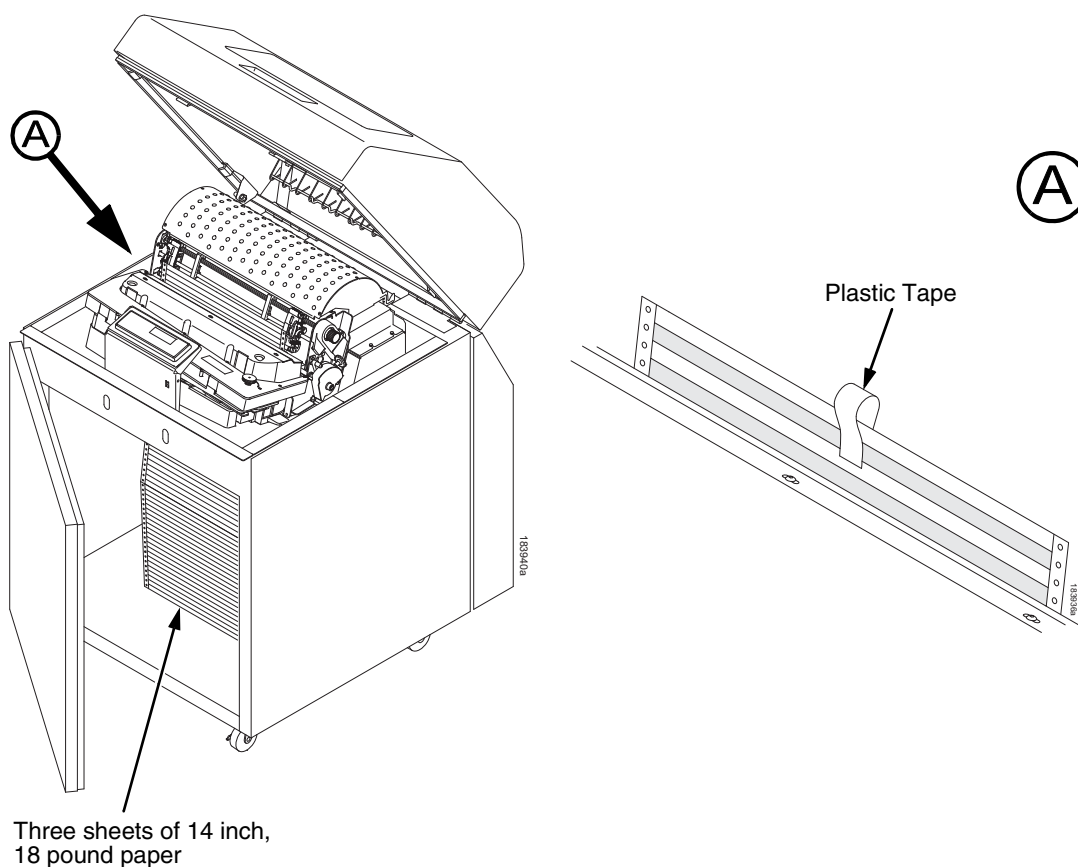

Figure 17. Preparing Paper for Tension Measurement
4. Prepare a length of 14 inch wide paper consisting of three sheets that are still attached at the perforations. The paper must be single part, 18 lb. maximum weight, 0.0036 inch (0.09 mm) maximum thickness. Open the cabinet front door and feed the paper up through the print station until the first page clears the ribbon mask by about one inch. (Figure 17.)
5. Fold a two inch piece of plastic tape over the top sheet, midway between the sides, as shown in Figure 17 detail A.